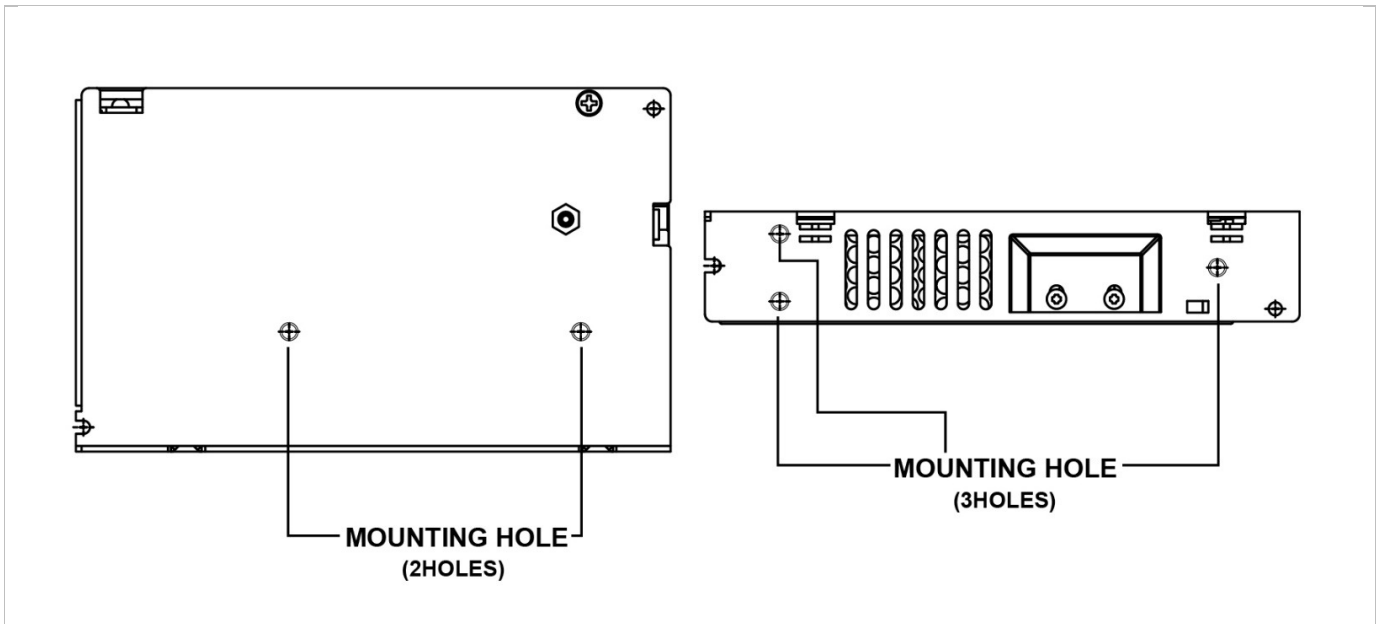

Fig. 3 Assembly Reference
- Use flexible cable (stranded or solid) of AWG No. 22-12. User should calculate and select the suitable wire specification (type/quantity/diameter) according to actual output current. The torque at the Connector shall not exceed 13Kgf.cm. (11.23 lbf.in). The insulation stripping length should not exceed 0.275" or 7mm. (Refer to Fig. 3).